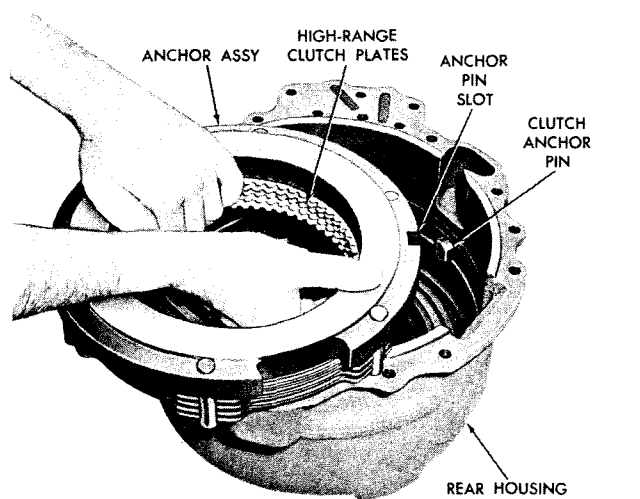

Fig. 7-13. Installing high-range clutch anchor and plates (-1 model)
(5) Grasp the entire anchor and plate assembly to hold the parts together. Install the anchor and plates into the rear housing, aligning the anchor pin slot with the clutch anchor pin (fig. 7-13).